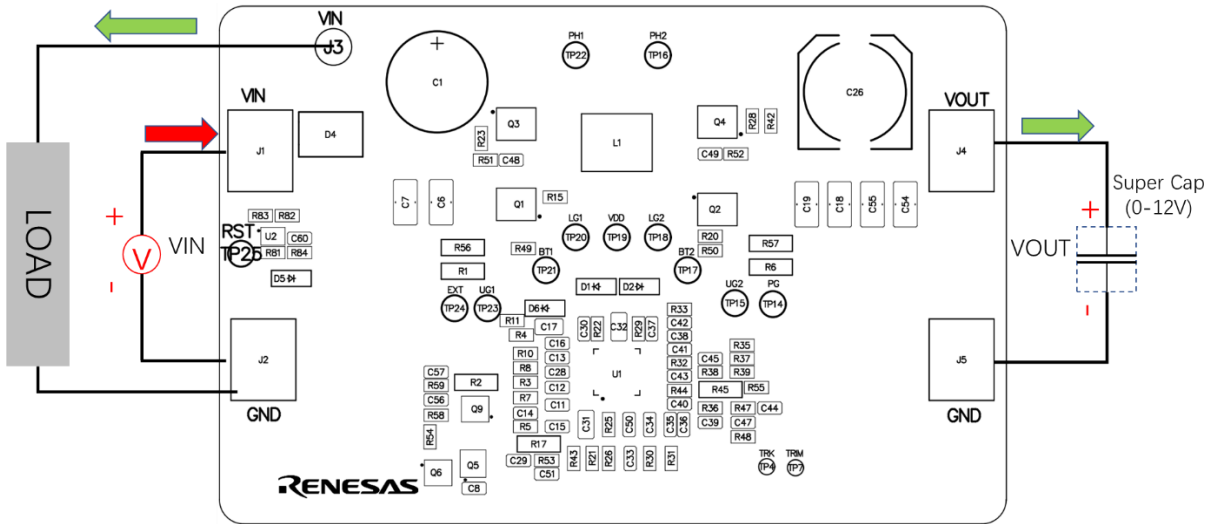

Figure 3 Charging current direction
As shown in Figure 3 on page 3. The DC power is supplied to J1(VIN +) and J2(GND -). The power the load through J3(+) and J2(-). The regulated 12V output on J4 (+) and J5 (-) can supply up to 1.5A to charge the super cap.
- 2, Adjust the power supply to 12V to 40V and turn it on. The board supplies the load while the super cap is charging. Refer to Figure 3 for the current flow direction.